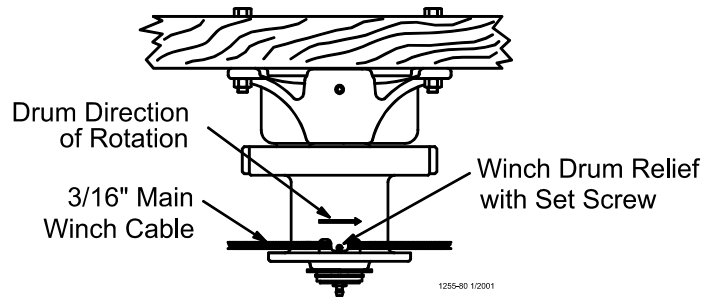

Figure 15. Attaching the Cable to the Power Winch
- Route the cable through the Winch Drum Relief located near the bottom of the drum. Tighten the set screw to anchor the cable to the drum. See **Figure 15**.